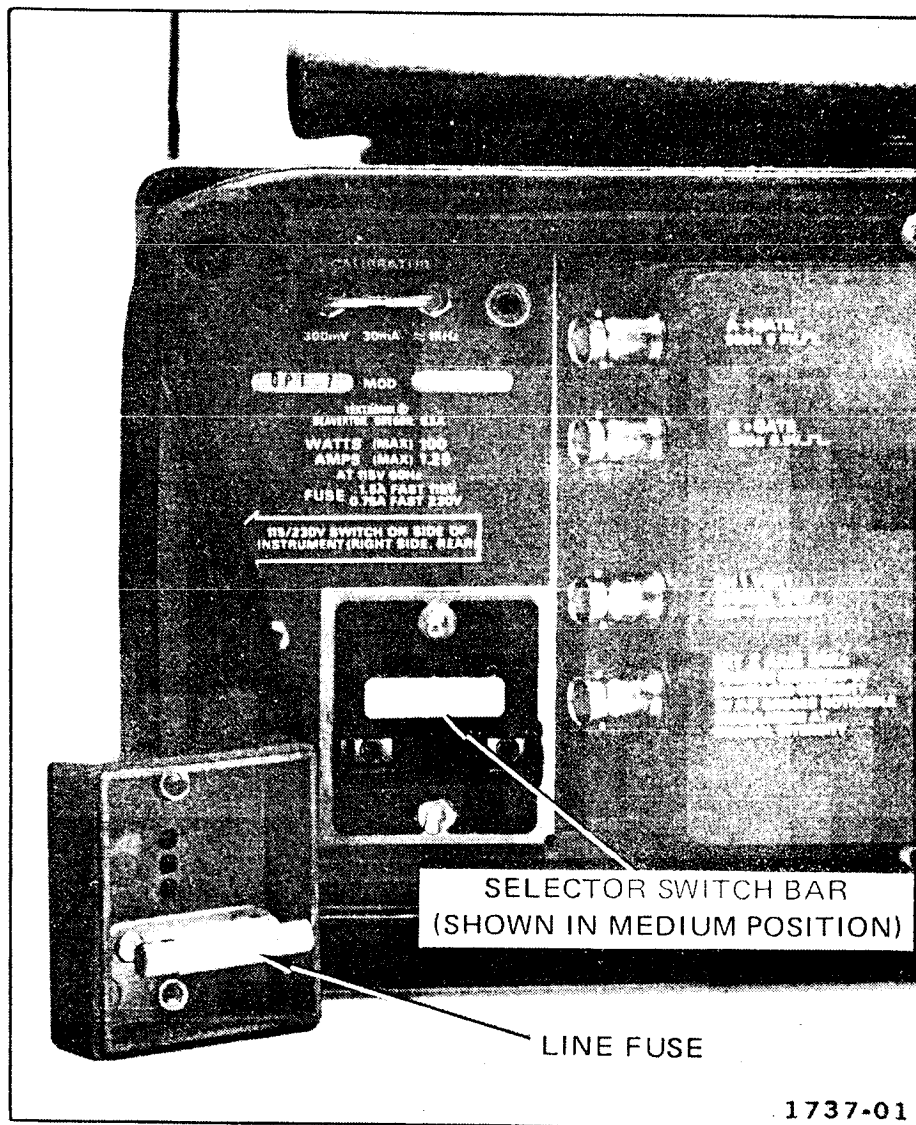

Fig. 1. Regulating range selector & line fuse.
| Fig. 1  | Regulating range selector and line fuse.                             | 3  | Fig. 17 | Instantaneous voltage measurement.                         | 37 |
3. Pull out the range selector switch bar (see Fig. 1). Select a range from Table 1 which is centered about the average line voltage. Slide the bar to the desired position and plug it in. Push the cover on and tighten the screws.